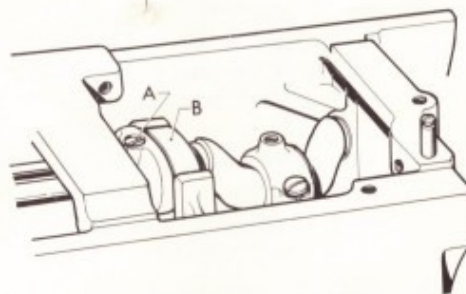

Fig. 4
3. Loosen screw (A) Fig. 4.
4. When the feed dog starts to move early, (starts to feed before the needle bar reaches its highest point) adjust by moving the cam (B) slightly away from you. Tighten screw (A) securely.
5. If the feeding is too late, move the cam (B) toward you. Tighten screw (A) securely.